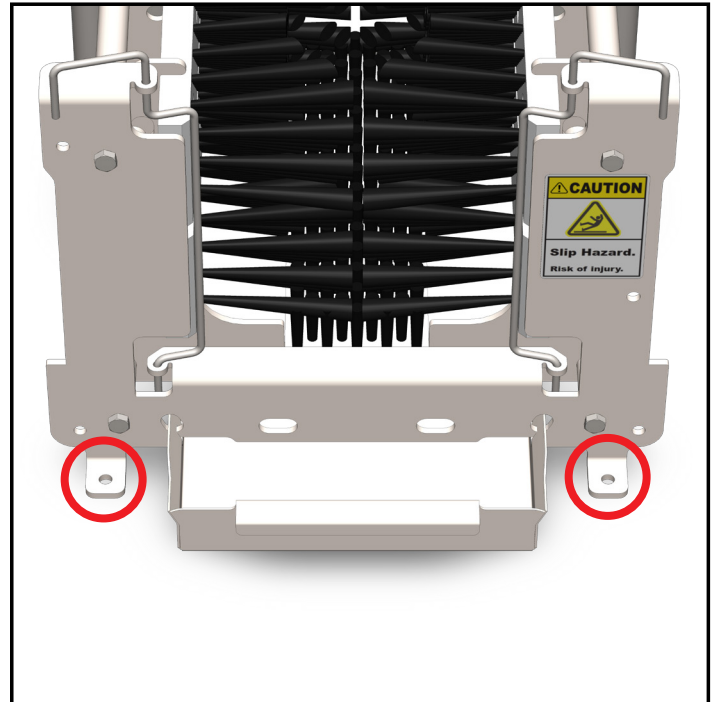

Fig. 3.1: Rear mounting brackets
4. Using the 4 mounting brackets near each corner, securely fasten the unit to the floor with appropriate hardware for the given material (i.e. concrete anchors and bolts) as shown in [Figures 3.1 and 3.2]